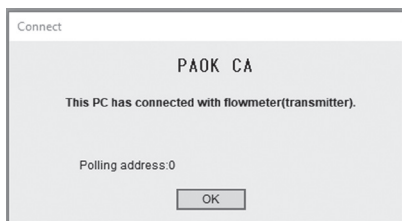
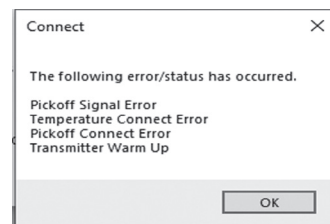

Fig.11
Fig.12
- ⑧ Upon completion of connections, a message box like the one in Fig. 11 appears. Click "OK" button. If an error/status has occurred, a pop-up window appears to show the error/status that has occurred as shown in Figure 12.